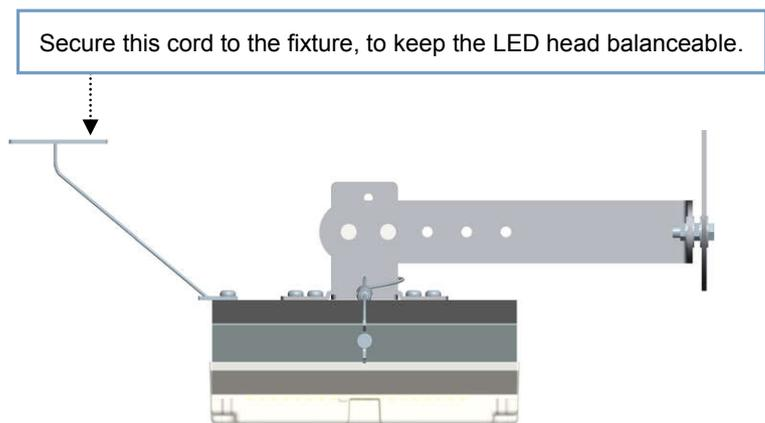

FIG.4
3. Secure the metal cord(s) (already with one end attached the LED head, see FIG. 4) to the fixture, such that the head will not get inclined (This step is requested for LED retrofit kits from 75W to 350W.)